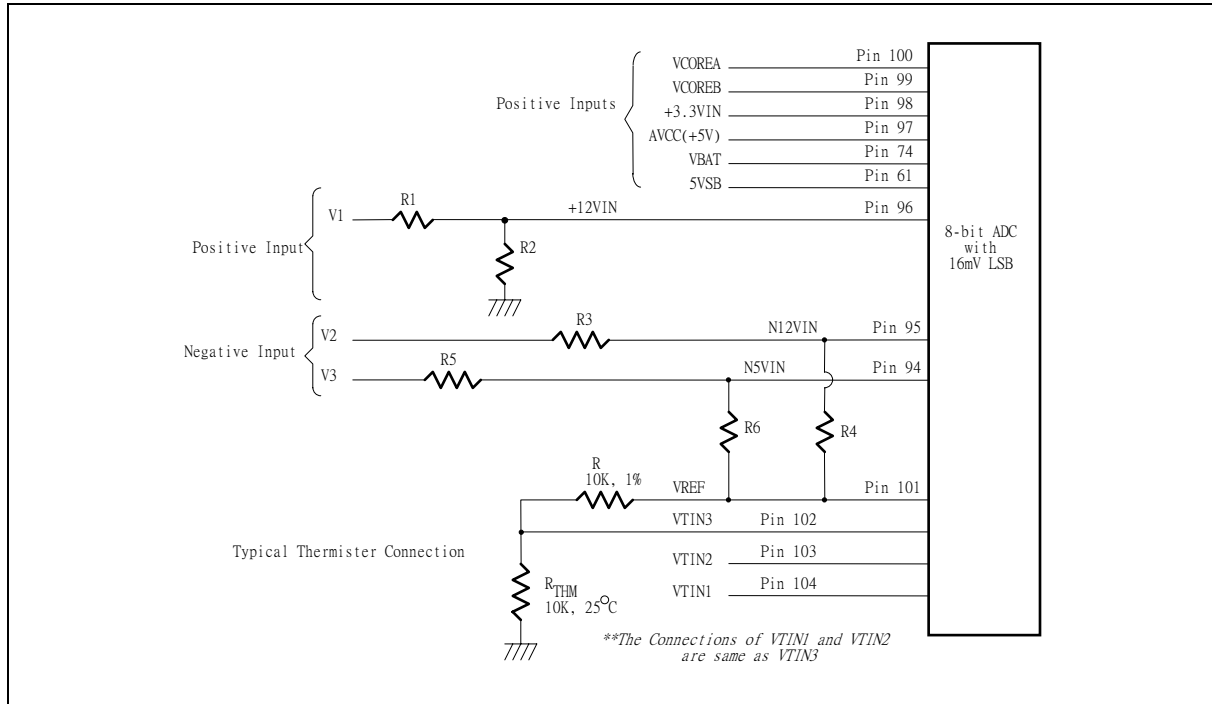

Figure. 8.2
The maximum input voltage of the analog pin is 4.096V because the 8-bit ADC has a 16mV LSB. Really, the application of the PC monitoring would most often be connected to power suppliers. The CPU V-core voltage, +3.3V, battery and 5VSB voltage can directly connected to these analog inputs. The +12V, -12V and -5V voltage inputs should be reduced a factor with external resistors so as to obtain the input range. As Figure 8.2 shows.
The negative voltage should be connected two series resistors and a positive voltage VREF (is equal to 3.6V) . In the Figure 8.2, the voltage V2 and V3 are two negative voltage which they are -12V and -5V respectively. The voltage V2 is connected to two serial resistors then is connected to another terminal VREF which is positive voltage. So as that the voltage node N12VIN can be obtain a posedge voltage if the scales of the two serial resirtors are carefully selected. It is recommended from Winbond that the scale of two serial resistors are R3=232K ohm and R4=56K ohm. The input voltage of node N12VIN can be calculated by following equation.
The W83627HF can connect three thermistors to measure three different envirimnt temperature. The specification of thermistor should be considered to (1) β value is 3435K, (2) resistor value is 10K ohms at 25°C. In the Figure 8.2, the themistor is connected by a serial resistor with 10K Ohms, then connect to VREF (Pin 101) .